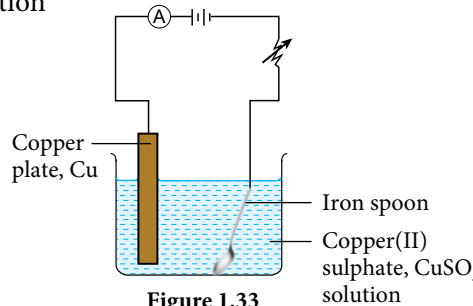

Figure 1.33
- Pour 1.0 mol dm⁻³ of copper(II) sulphate, CuSO₄ solution into a beaker until half full.
- Dip the iron spoon and copper plate into the 1.0 mol dm⁻³ of copper(II) sulphate, CuSO₄ solution as shown in Figure 1.33.